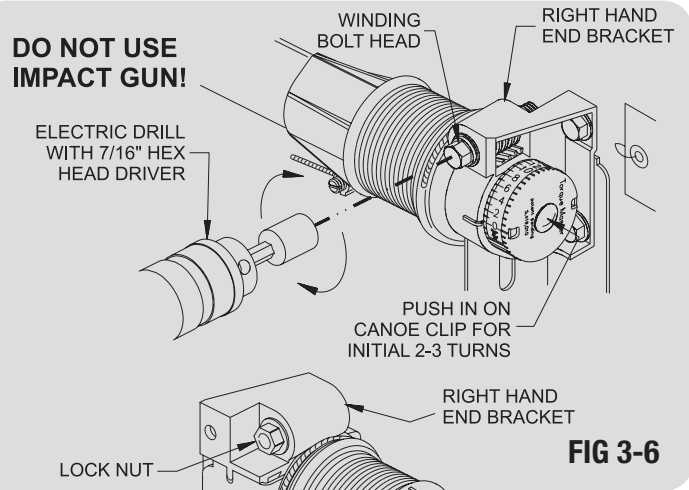

FIG 3-6
- 2 Use an electric drill with a 7/16" hex head driver. Rotate right side winding bolt head clockwise while pressing in on the canoe clip, until counter cover assembly shows 2 to 3 turns. This keeps cable tight while adjusting left cable - **FIG 3-6**
Return to right hand side and continue rotating winding bolt head clockwise until counter cover assembly shows the correct number of turns for your door height - **FIG 3-6**
Start on left side. Rotate winding bolt head clockwise, til counter cover shows correct number of turns for door height - **FIG 3-6**